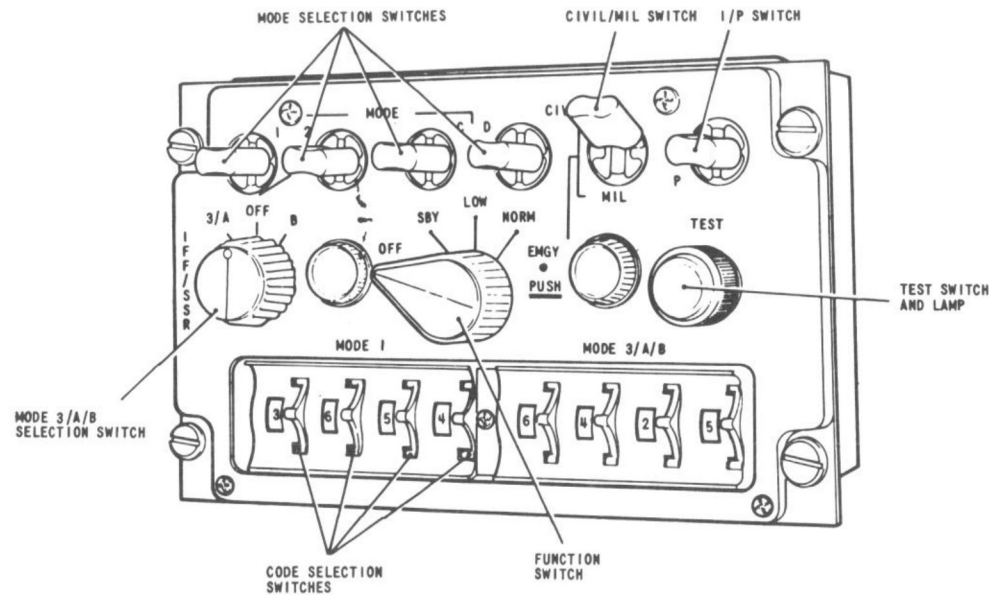

FIG.2. MAIN UNITS
2. Information on these units plus the complete functioning and operating data will be found in A.P.114J-0101-16. Fig. 1 shows the location of each unit in the aircraft and fig.3 shows the inter-connection detail. Location, access and the relevant Air Publication references can be found in Table 2. Illustrations of the main items can be found in fig.2.